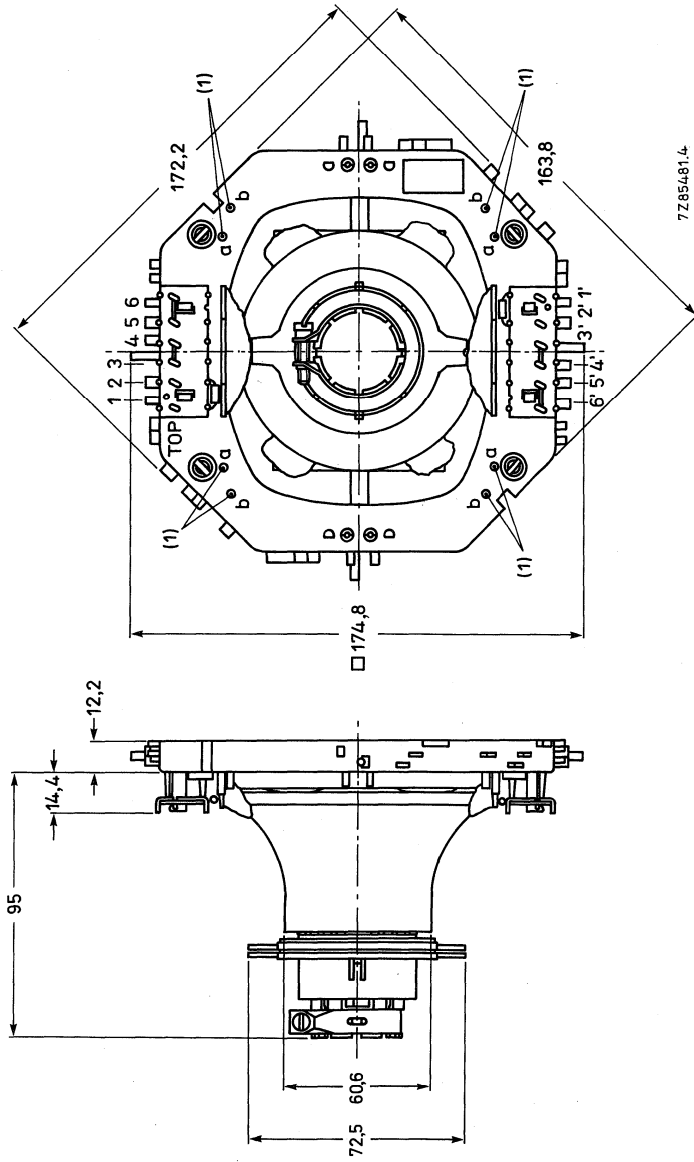
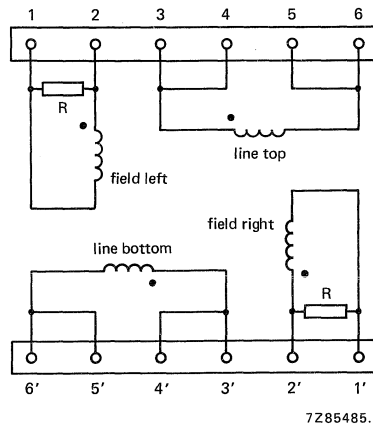

Fig. 1 Deflection units AT1039/00 and AT1039/01.
Fig. 2 Diagram of line and field coils; R = 270 Ω . The beginning of the windings is indicated with ●.
If a further improvement of raster geometry is required use can be made of correction magnets*, which must be fitted to mounting posts (1); posts a to be used for AT1039/00, posts b for AT1039/01. The unit has solder pins for connection. The pin numbering in Fig. 1 corresponds to that in Fig. 2.